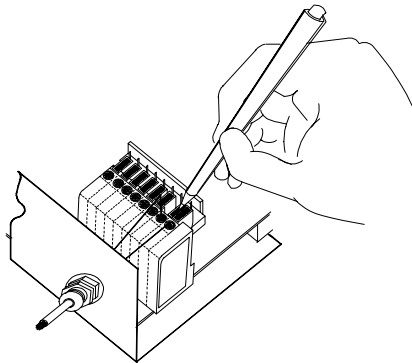

Figure 6 - System cable connections to the junction box
- Using a device such as a screwdriver, push down on the orange lever directly above the clamp (see Figure 6).